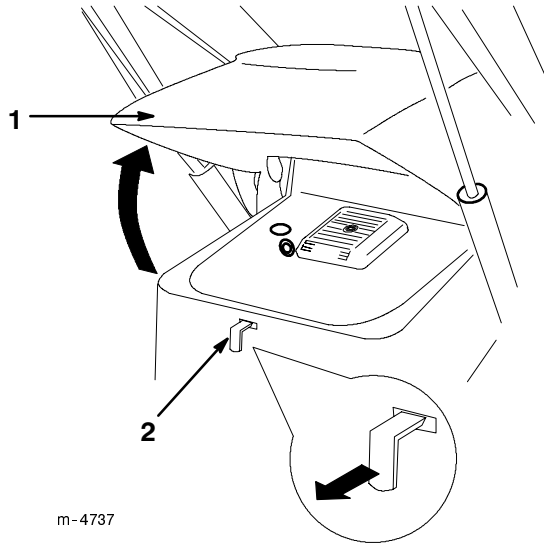

Figure 17
1. Pull out the hood latch in the front screen (Fig. 17).
2. Swing the hood up until it locks open (Fig. 17).